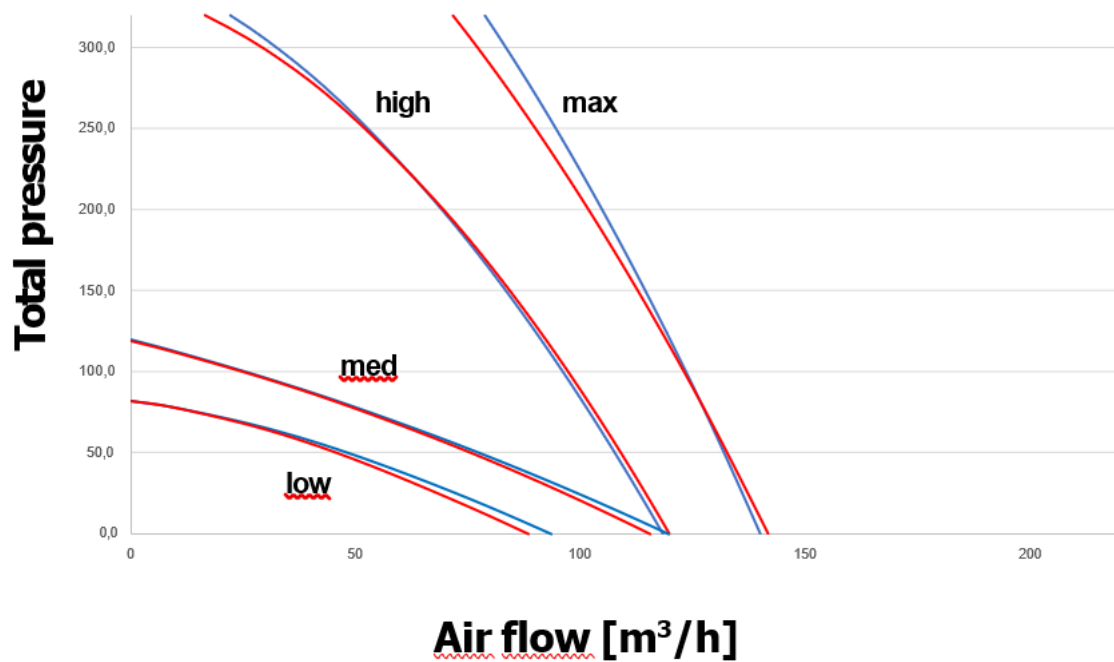

Figure 8. Total pressure for HRU-FlatAIR-125
- HRU-FlatAIR-125-H 125 m3/h (at 100 Pa) [Fig. 8]